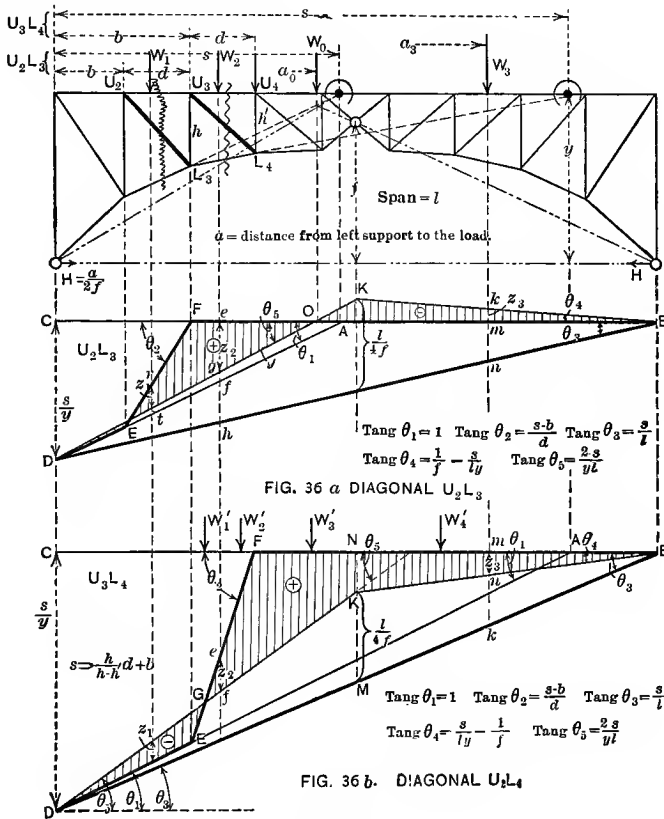

FIG. 36.
**Diagonals in a Three-hinged Arch with Open Web.**—The frame diagram of a three-hinged arch is shown in Fig. 36 and the influence diagrams for the diagonals  $U_2L_3$  and  $U_3L_4$  are outlined in Figs. 36a and 36b.